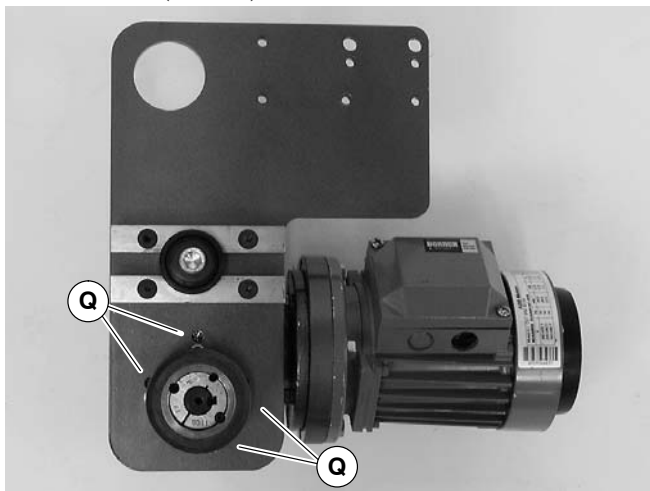

Figure 5
2. If required, change gearmotor position by removing four (4) screws (Q of Figure 5). Rotate gearmotor to other position and replace screws (Q). Tighten to 110 in-lb (12 Nm).